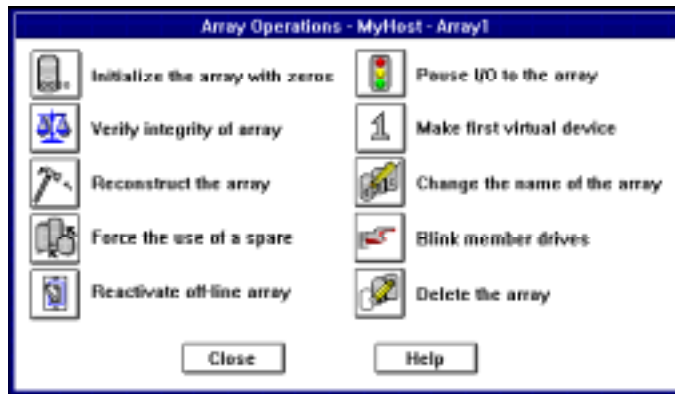

Figure 6-1. Array Operations Dialog Box
- 8 Click **Operations**. The Array Operations dialog box appears, as shown in Figure 6-1.